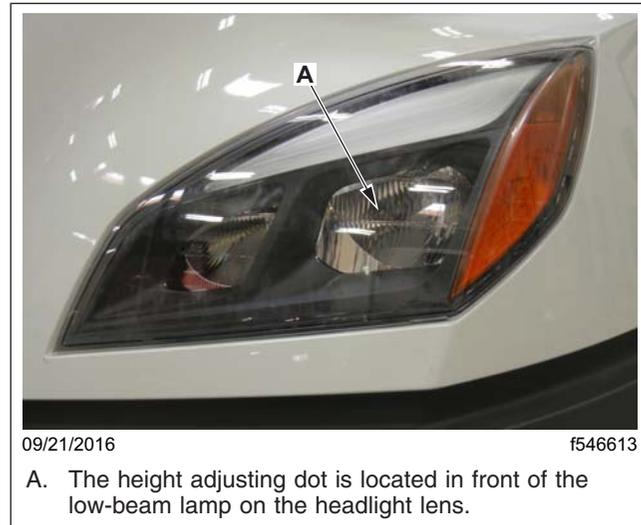
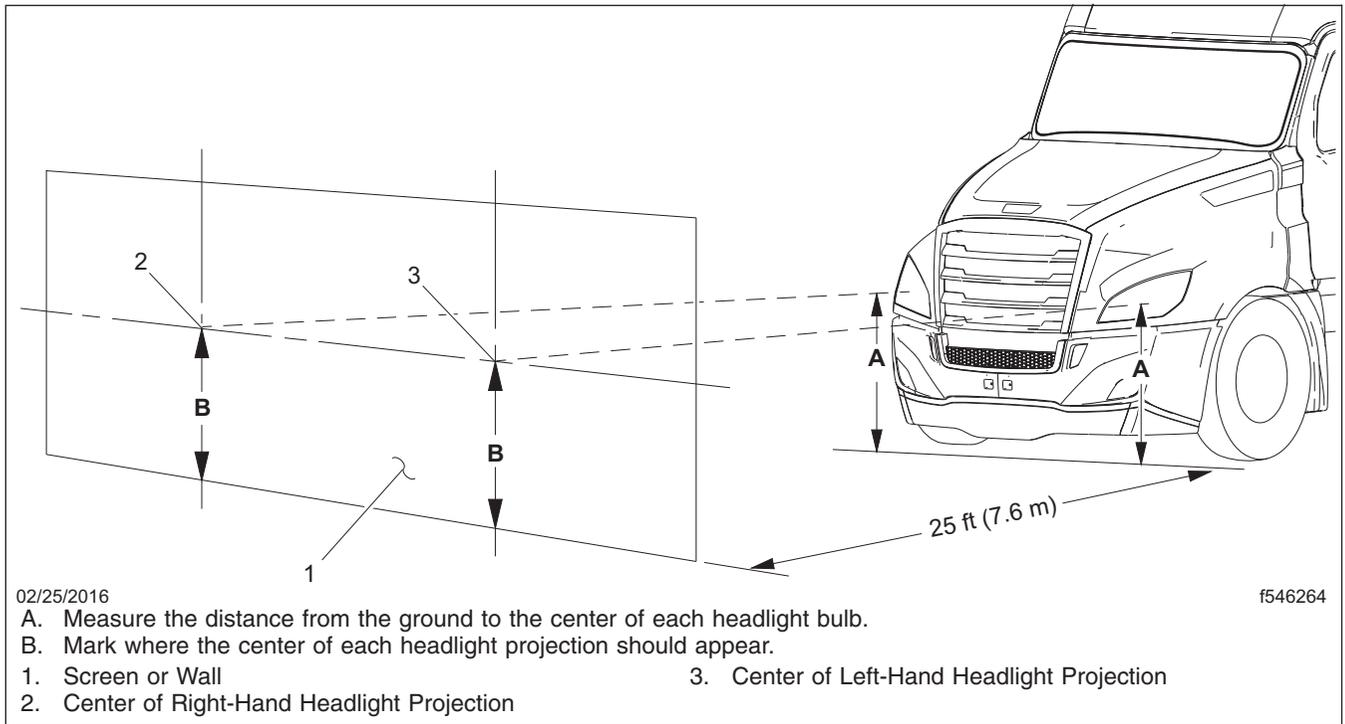

Fig. 22.1, Headlight
Fig. 22.2, Headlight Aiming Screen/Wall
2. Each headlight has a height adjusting dot on the lens. See Fig. 22.1. Measure the distance from the ground to the height adjusting dot on each headlight (Fig. 22.2, Item A). Note those distances.
3. On the screen or wall, mark the locations of each headlight bulb center using the distances found in step 2. See Fig. 22.2, Items 2 and 3.